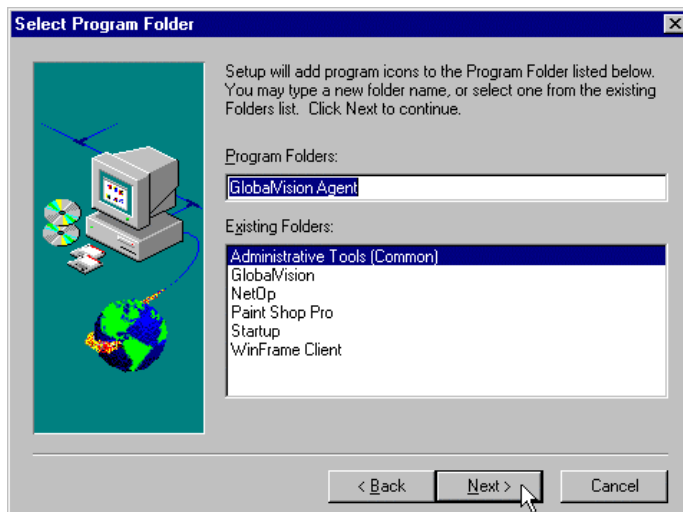

Figure 38 – Select Program Folder dialog box
10. Select the program folder in the **SELECT PROGRAM FOLDER** dialog box. The program folder is the folder or group where the ReadMe icon will be located. The default program folder name is GlobalVision Agent. If another program folder name is desired, enter it into the PROGRAM FOLDERS text box. Click **NEXT** to continue installation. See Figure 38.